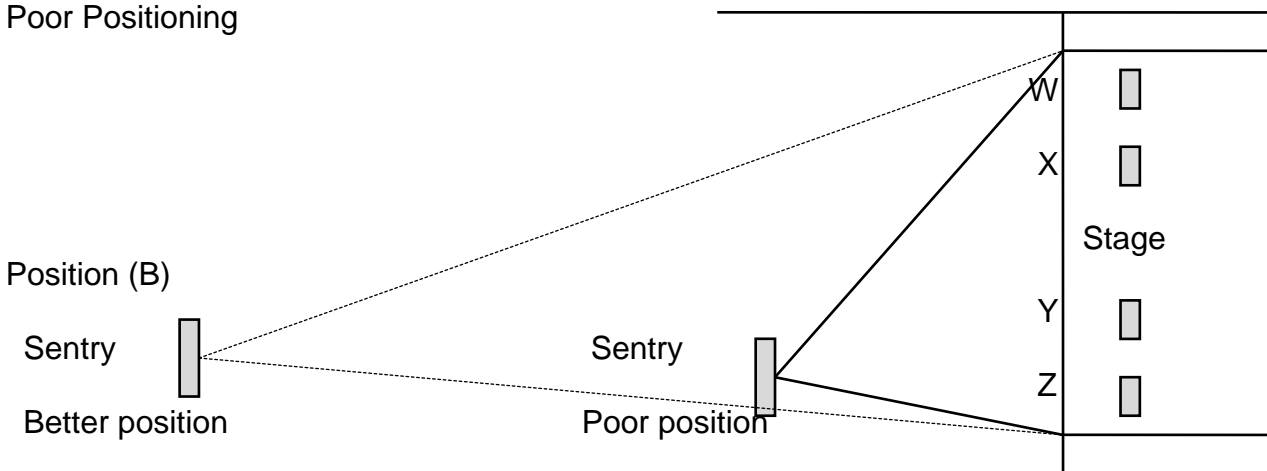

Fig 2
In Fig 2 the instruments Y & Z will appear louder to the Sentry than instruments W & X. Moving the Sentry back away from the stage to position (B) will minimise the problem